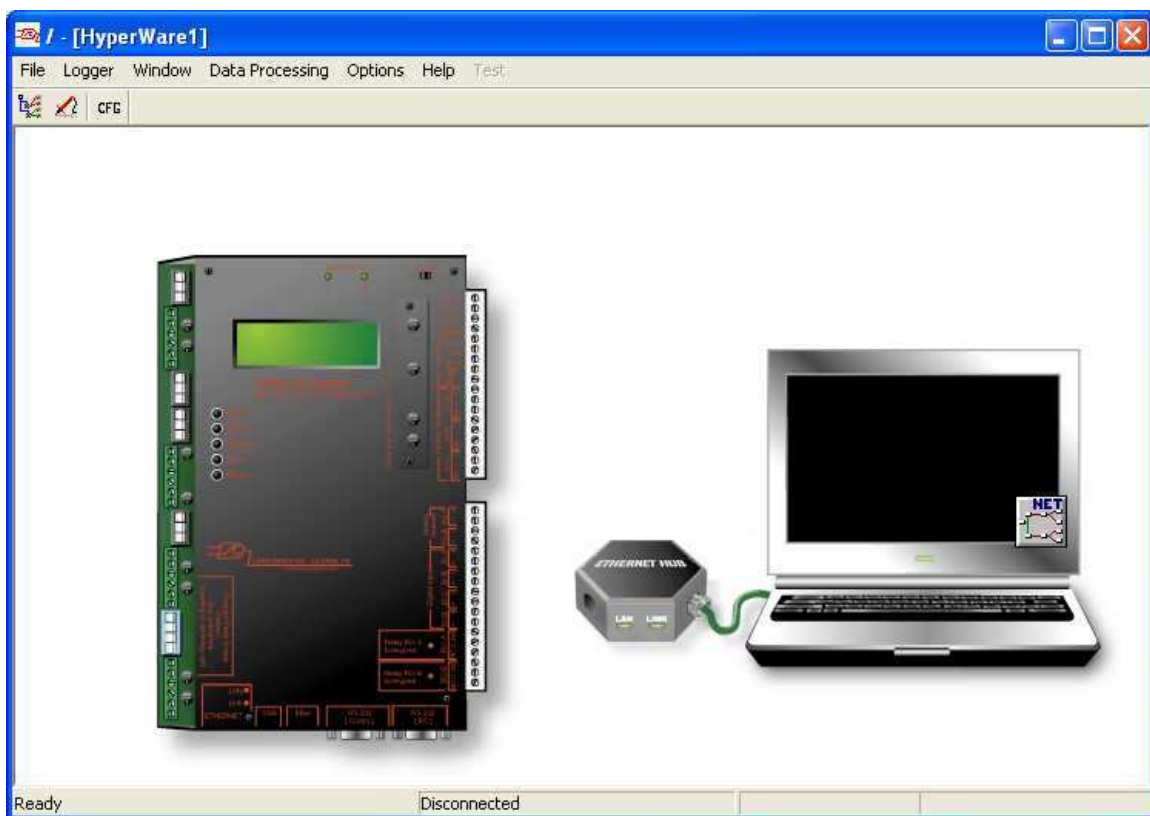

Figure 2-1; Communication Window
Upon launch of HyperWare-II, the Communication window will be displayed (Figure 2-1). From within this window, communications between the PC and the Logger are initiated and handled. The graphic for the connection between the Logger and the PC depends on the last communications used.
2. From the Communications window (Figure 2-1) double-click on the graphic communication device showing at the end of the cable connected to the PC. Depending on the last communication method used, the device may be a multi-port hub, a DB-9 connector, a USB connector or a modem.
2. From the Communications window (Figure 2-1) double-click on the graphic communication device shown at the end of the cable connected to the PC. Depending on the last communication method used, the device may be a multi-port hub, a DB-9 connector, a USB connector or a modem.